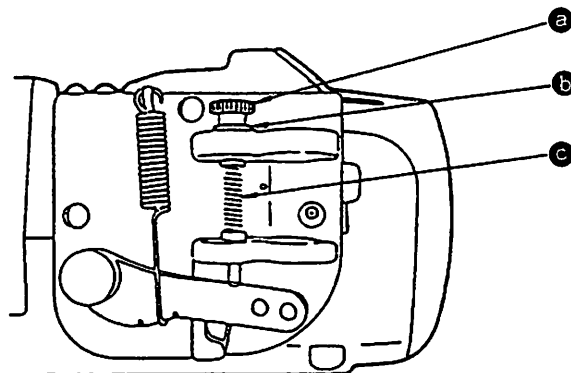

Fig. 1 Pedal sensor A asm.
1) Loosen pressure adjusting nut **b** in the pedal sensor A asm. (Fig. 1) and remove pressure adjusting screw **a**. Remove spring A **c** and replace it with spring B. Then, attach adjusting screw **a** and adjusting nut **b** in position.